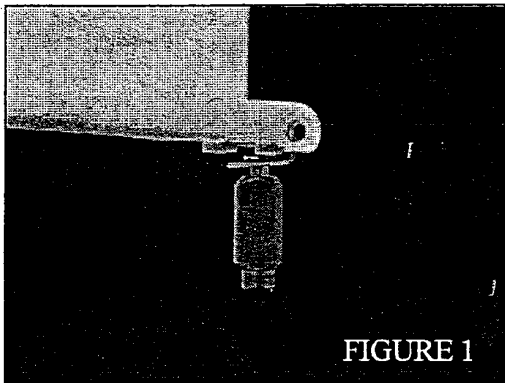

FIGURE 1
- 3.1 Place the float valve into the forked retractor clip on float as shown in Figure 1.
- 3.2 Place the float valve into the forked retractor clip on float as shown in Figure 1.